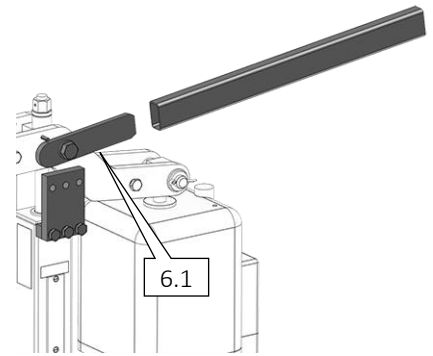

Figure 17
- 2 With the standard execution (see *Figure 17*) an additional tube has to be mounted to the lever (scope of supply).